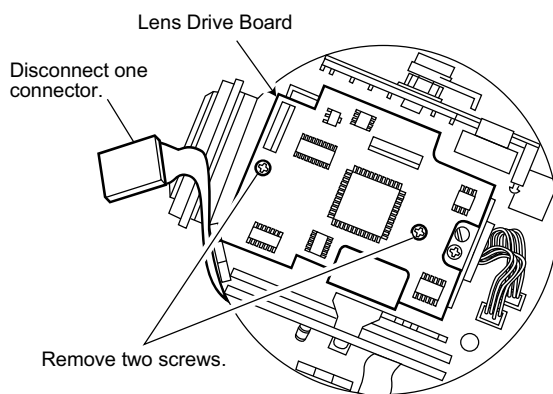

Fig. 2-7
- Referring to Fig. 2-7, disconnect one connector from the Lens Drive Board, remove two screws that secure the Lens Drive Board and remove the Lens Drive Board.